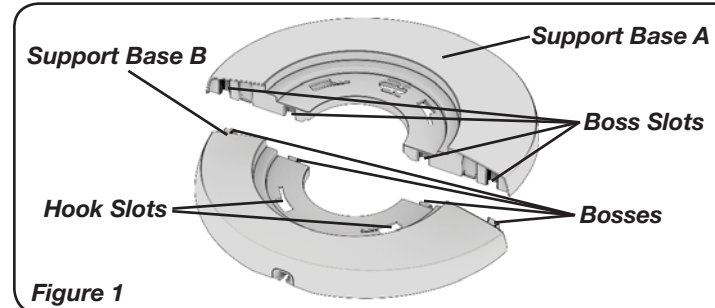
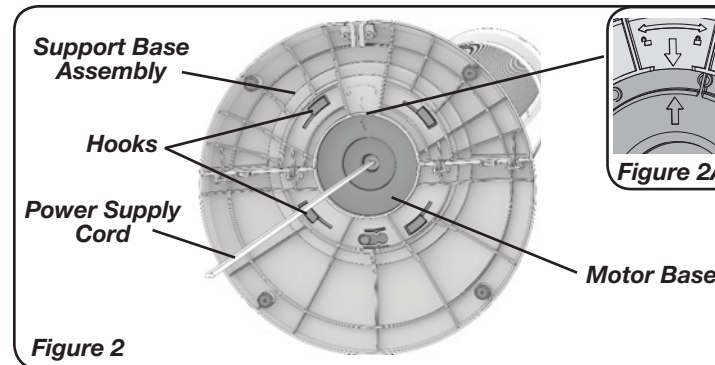

Figure 1
Figure 2
2. Assemble the Support Base Halves by interlocking the bosses on Support Base B into the Boss Slots on Support Base A. (Figure 1)
3. Align the Support Base Assembly with the Motor Base. Thread the Power Supply Cord through the large hole in the center of the Support Base Assembly. Make certain to align the Hook Slots (Figure 1) on the Support Base Assembly with the Hooks on the Motor Base. The alignment arrow on the Support Base Assembly should align with the alignment arrow on the Motor Base (Figure 2 & Figure 2A).